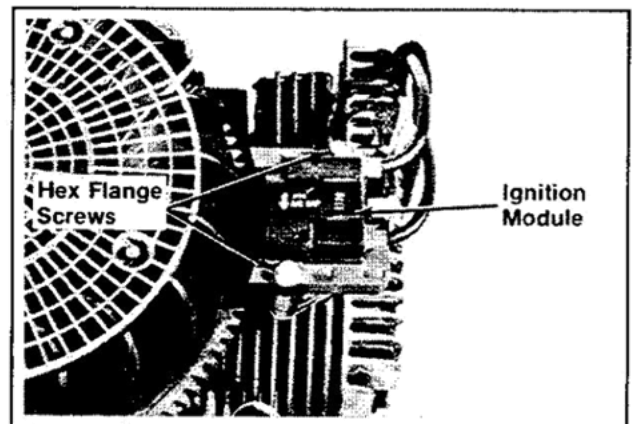

Figure 9-18. Removing Ignition Module.
1. Remove the hex flange screws and ignition module from bracket on #1 side cylinder barrel. Refer to Figure 9-18.